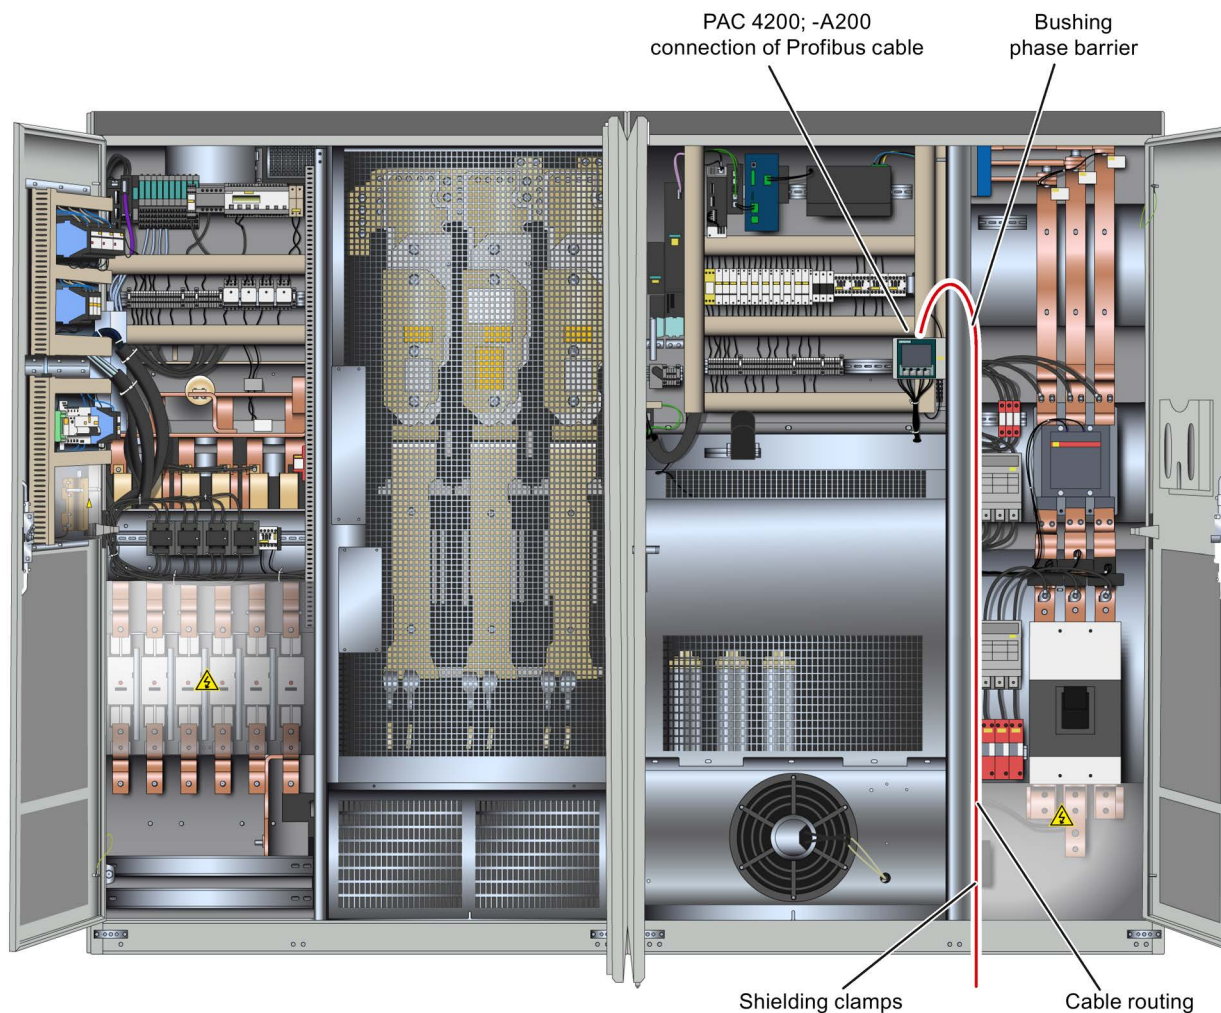

Figure 7-3 Running the Profibus cable in the master
1. Insert the cable into the bottom of the AC cabinet and run it up and through the hole in the partition and on by a suitable route through the cable ducts to the SCALANCE module -A202 as shown in Figure 7-3 Running the Profibus cable in the master (Page 115) for the Profibus cable.